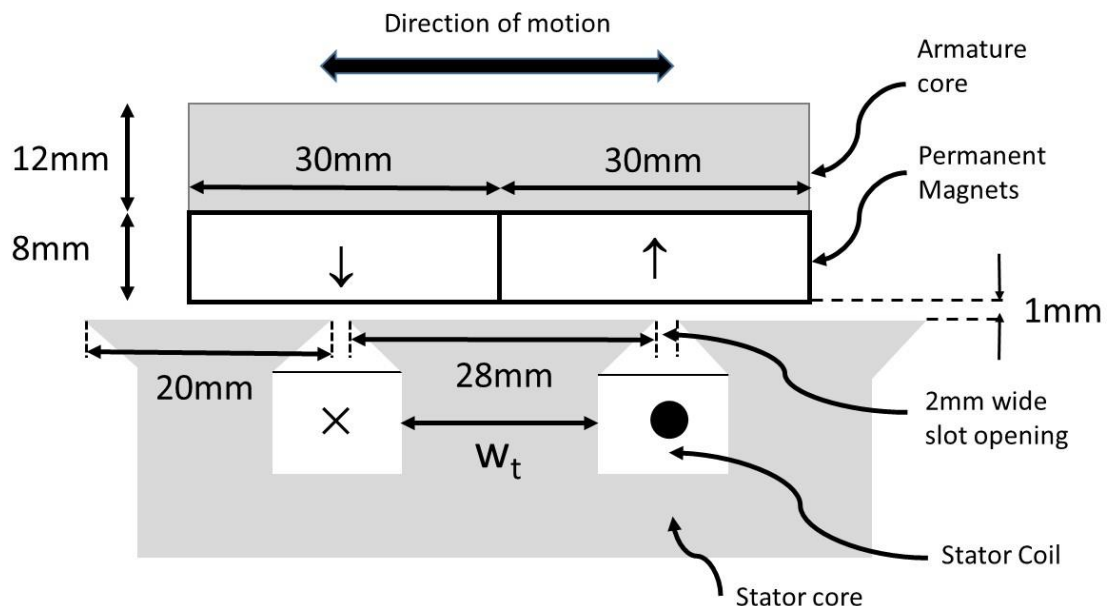

Figure 6. Cross-section through a linear actuator
- f. List the two possible ways of reducing the temperature rise within coils and PMs of electrical machines. (2)
6. Figure 6 shows a cross-section through a slotted, bi-directional, linear permanent magnet actuator. The actuator has an axial length of 40mm (equivalent to the depth into the plane of the paper for the cross-section of Figure 6). The coil is a simple single-phase coil consisting of 100 series turns and has a resistance of 0.1Ω .
- Listing any assumptions that you make, calculate the airgap flux density at 20°C in the region of the airgap above the stator teeth. (2)
- If the stroke of the actuator is $\pm 6\text{mm}$ from the central position shown, select an appropriate values for w_t , taking care to explain your reasoning (Figure 6. is a schematic and not drawn to scale). (3)
- Calculate the magnitude of the force produced by the actuator at 20°C when the armature is in the central position shown and the coil carries a current of 5A. (4)
- Calculate the magnitude of the back-emf when the armature is moving at 3m/s (3)
- During continuous operation, the temperature of the magnet rises to 80°C. Calculate the increase in the coil copper loss which occurs when the actuator is producing the same force at calculated in part (c). (3)
- If the density of the magnet and armature core are both 8000 kg/m^3 , calculate the acceleration of the armature from the central position with a current of 25A (3)
- What check would need to be performed during the design to ensure that the operating condition in part (f) is safe for the actuator, even if this current is only present for a few milliseconds, and explain briefly the procedure followed. (2)